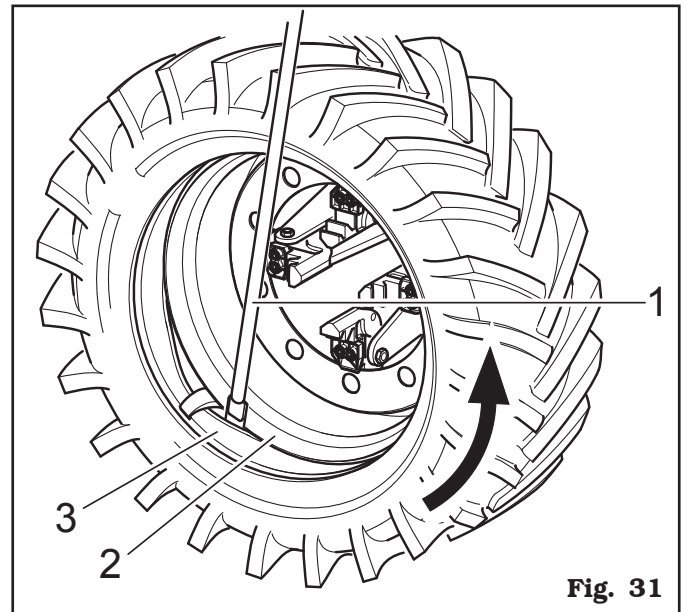

Fig. 31
- Insert the lever (**Fig. 31 ref. 1**) between rim (**Fig. 31 ref. 2**) and bead (**Fig. 31 ref. 3**) on the tool right.
- Keeping the lever pressed, lower the wheel until the edge of the rim is approximately 5 mm distant from the hook tool then turn the mandrel counterclockwise keeping the lever (**Fig. 31 ref. 1**) pressed until the tyre has been completely dislodged from the rim.